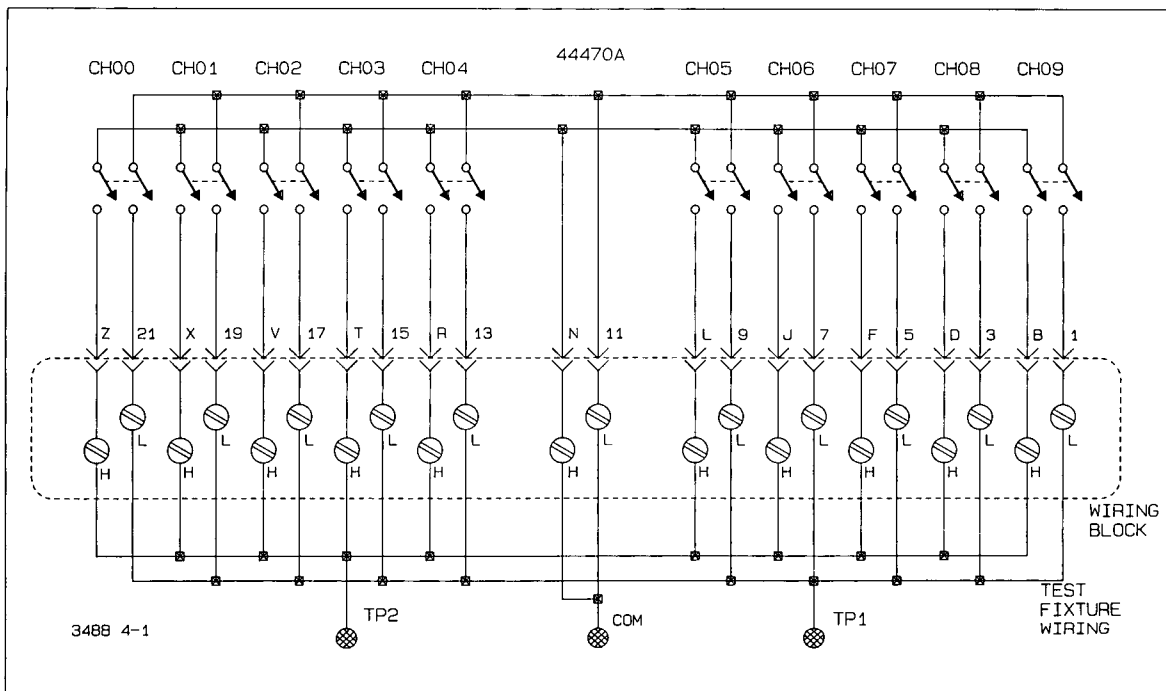

Figure 4-1 44470A Test Configuration
The 10 Channel Multiplexer contains a 10 channel array of double-pole single-throw (DPST) relays.* Each channel has a low line and a high line which are switched in unison. The test fixture (see Figure 4-1) consists of (1) a short circuit between all of the low lines, (2) a short circuit between all of the high lines, and (3) a short circuit between the two common lines. With the test fixture installed, and an ohmmeter connected between the shorted common lines and either the shorted low lines or the shorted high lines, the card is tested by successively closing each relay while checking for an indication of the closure on the ohmmeter.